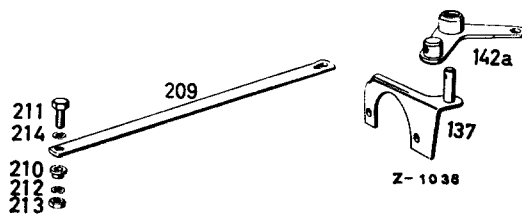

Fig. 07-3/9
3. The bracket for the choke control (137) and the angle lever (142a) for the starter mechanism of the front carburetor differ from those of the rear carburetor and those of the carburetor for Model 190. The starter mechanism of the front carburetor is operated by the angle lever of the rear carburetor via the connecting rod (209) (Fig. 07-3/9).